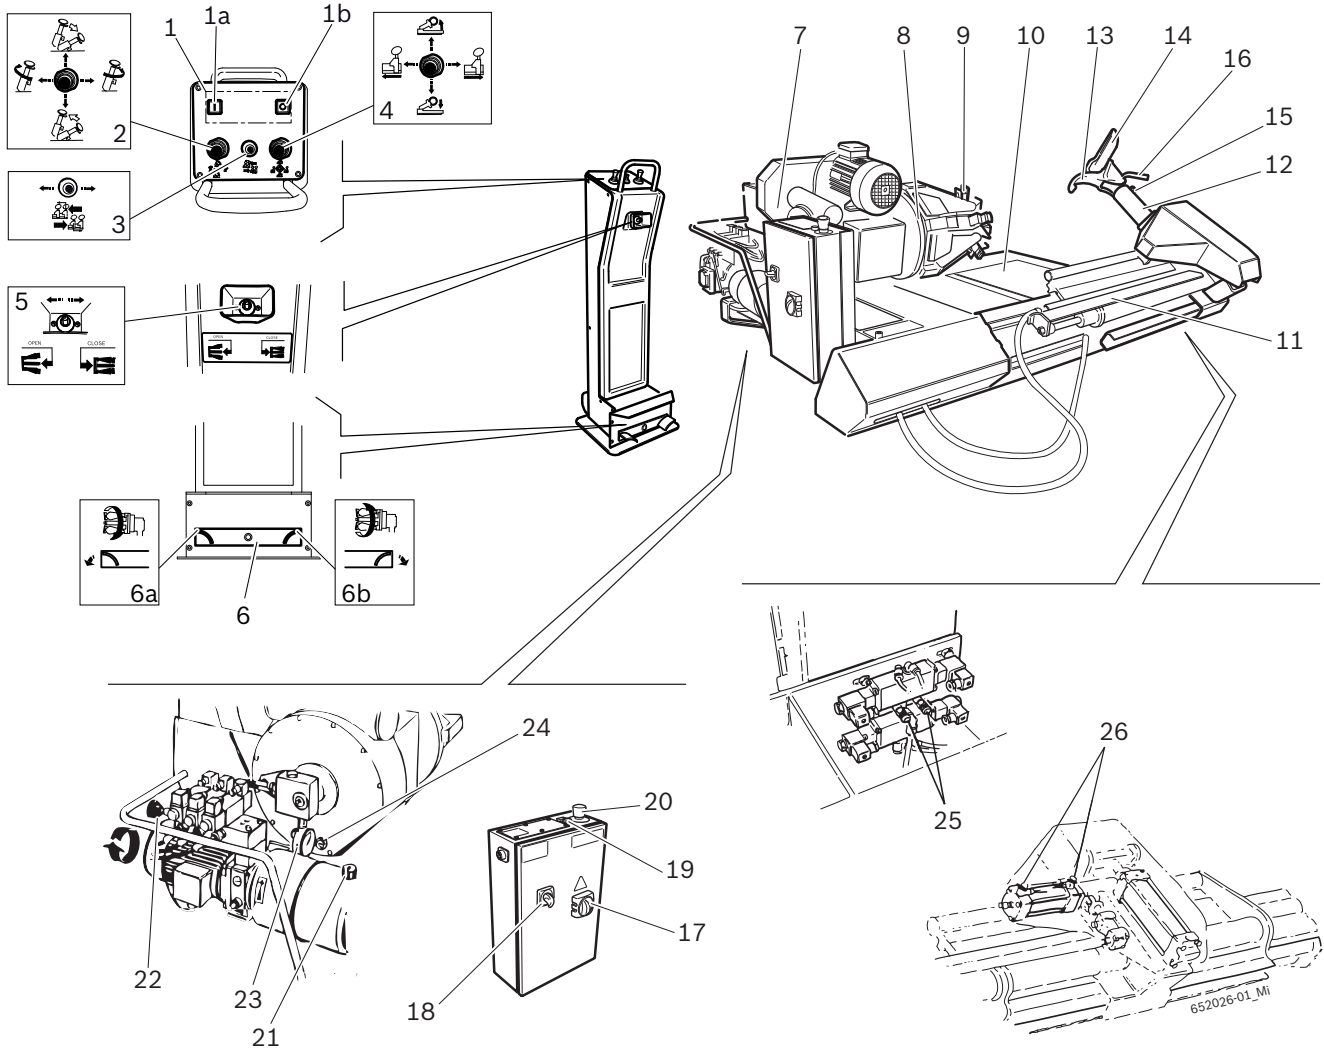

Fig. 1: JUMBO TCS56
**i** The locking flange is driven by the high pressure hydraulic circuit, adjustable from 20 to 130 bar by turning the dedicated knob (Fig. 1, pos. 20) and reading the value on the manometer (Fig. 1, pos. 21). Normal working pressure is 130 bar. For weak or particularly thin rims it is necessary to decrease this pressure.